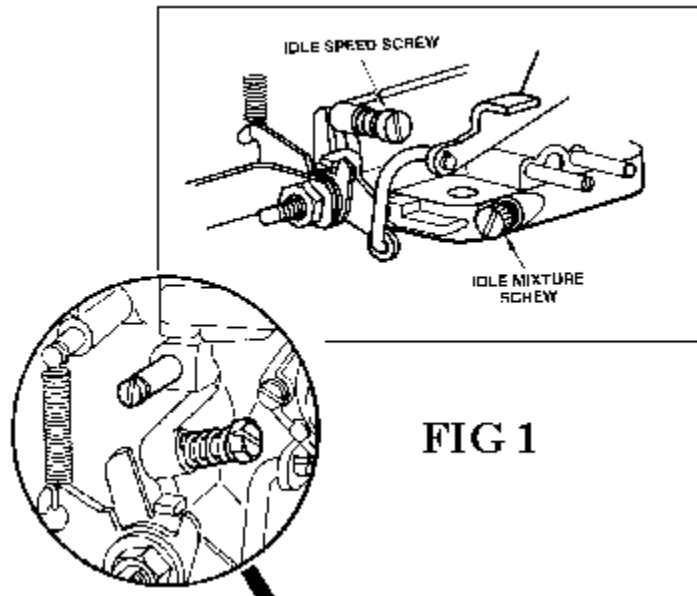

FIG 1
Idle Speed Screw should be no more than 1 1/2 turns in (Fig 1)
2. Set the Idle stop screw (speed screw see fig 1) by backing out the Idle speed screw until it is not in contact with the throttle stop lever. Cycle the linkage again to be sure that the linkage comes to close without any assistance. (Checking for linkage bind) Now bring screw back into contact with the lever and continue to open or screwing in 1 turn no more than 1 1/2 turns.
3. Set the mixture screw (see Fig 1) by first screwing in until the screw stops, bottoms out. **DO NOT FORCE OR BIND AS THIS WILL CAUSE DAMAGE TO THE SCREW AND IT'S SEAT IN THE BODY OF CARBURETOR.** Back out the screw 2 full turns.